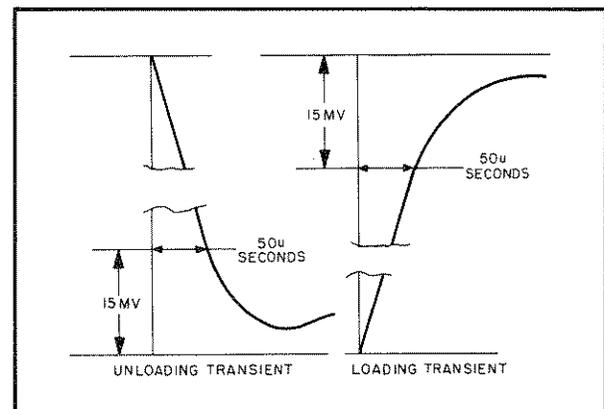

Figure 5-8. Transient Recovery Time, Waveforms
- Starting from the major graticule division representative of time zero, count to the right 50  $\mu$ sec and vertically 15mV. Recovery should be within these tolerances as illustrated in Figure 5-8.